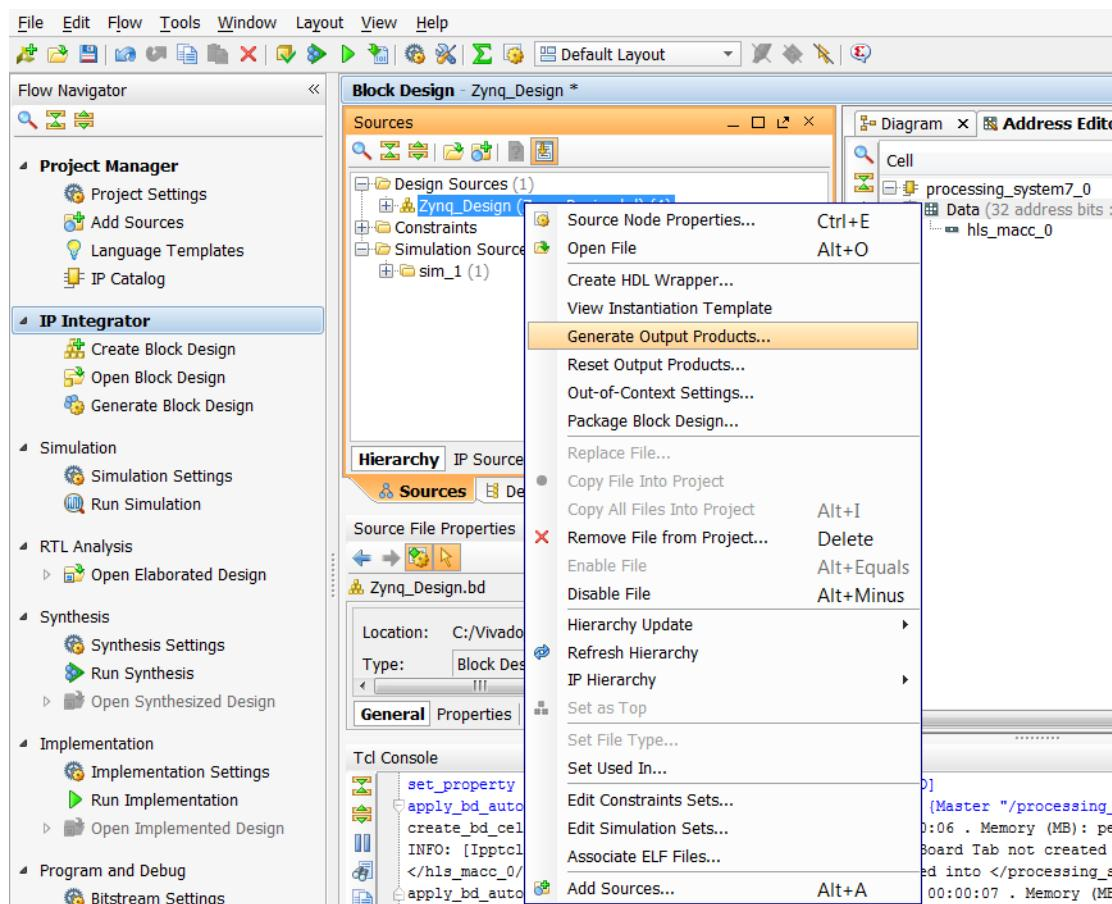

Figure 10-22: Wrapper Generation
2. In the Sources browser in the main workspace pane, a Block Diagram object called `Zynq_Design` is at the top of the Design Sources tree view (Figure 10-22). Right-click this object and select **Generate Output Products**.